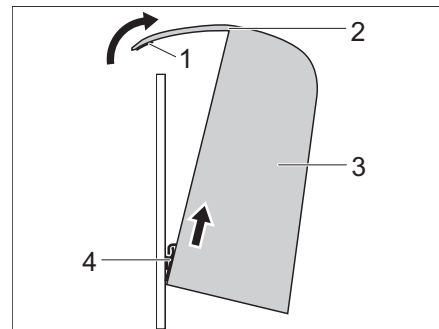

Fig. 66 Remove back cushion
- Tilt the back cushion (Fig. 66,3) forward and unhook the hook strap (Fig. 66,4).
- Hold the back cushion (Fig. 66,3) at an angle and hook the hook strap (Fig. 66,4) onto the bottom.
- Smooth the fabric flap (Fig. 66,2) backwards and press the Velcro fastener (Fig. 66,1) firmly on.